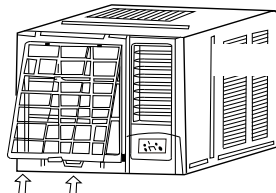

Fig. 2
- 2 Pinch the handle under the air filter, bend the filter gently and remove it from the slots (See Fig.2).
- 1 Install the air filter into the frame's slot from upside to underside (See Fig. 2).